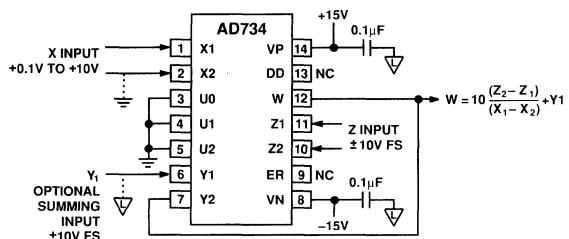

Figure 8. Standard (AD534) Divider Connection
In the recommended direct divider mode, the Y input is set to a fixed voltage (typically 10 V) and U is varied directly; it may have any value from 10 mV to 10 V. The magnitude of the ratio X/U cannot exceed 1.25; for example, the peak X-input for U = 1 V is ± 1.25 V. Above this level, clipping occurs at the positive and negative extremities of the X-input. Alternatively, the AD734 can be operated using the standard (AD534) divider connections (Figure 8), when the negative feedback path is established via the Y₂ input. Substituting W for Y₂ in Equation (2),
Figure 8 shows the connections for the standard (AD534) divider mode. Feedback from the output, W, is now taken to the Y2 (inverting) input, which, provided that the X-input is positive, establishes a negative feedback path. Y1 should normally be connected to the ground associated with the load circuit, but may optionally be used to sum a further signal to the output. If desired, the polarity of the Y-input connections can be reversed, with W connected to Y1 and Y2 used as the optional summation input. In this case, either the polarity of the X-input connections must be reversed, or the X-input voltage must be negative.